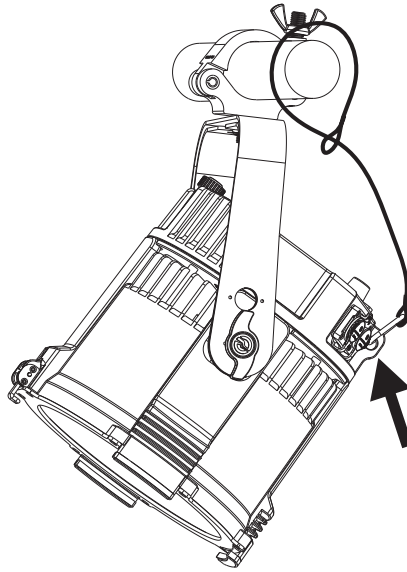

Figure 3. Safety cable attachment point
2. See Figure 3. Fasten the safety cable to the attachment hole on the back of the fixture between the connectors. Check that the fixture is now secured.